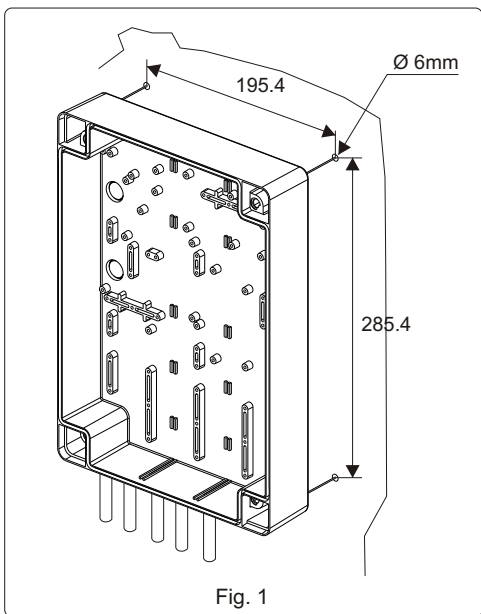

Fig. 1
- 3) Trace the 4 fixing points using the container as template mark or making reference to the distances shown on Fig. 1